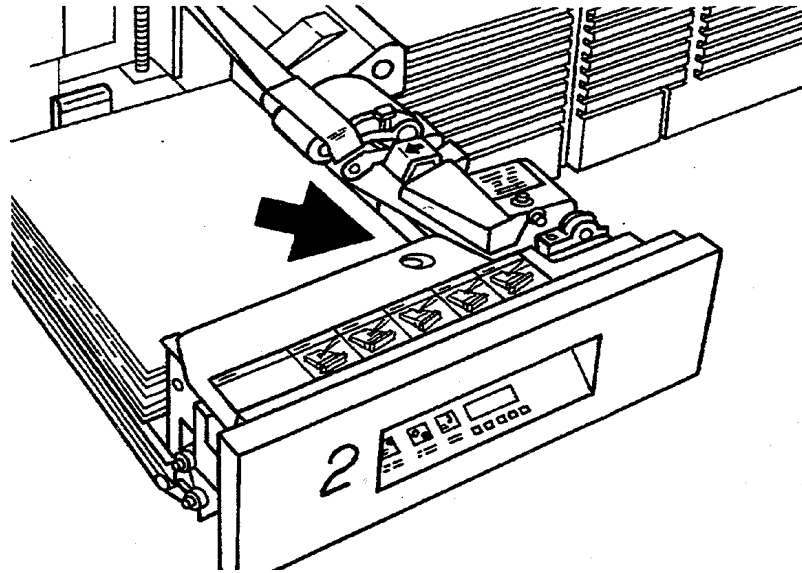

Figure 3-4 Positioning the stack
7. Position the stack against the front right corner of the tray, as shown in Figure 3-4. This is indicated by the green arrow on the bottom of the tray.